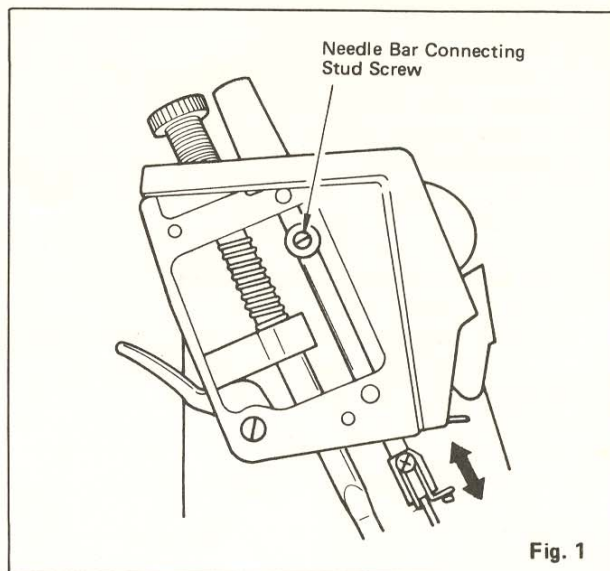

Fig. 1
- Loosen needle bar connecting stud screw. (Fig. 1)